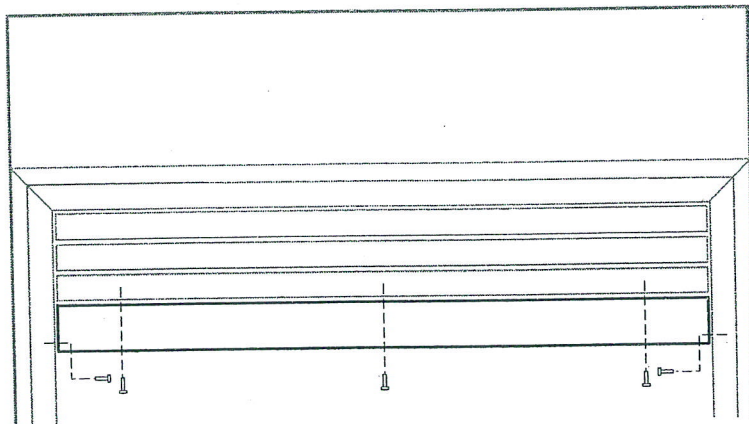

Figure 4. Canopy Installation
2. Align the black canopy with the holes in the top frame assembly. *Refer to Figure 4*
3. Install the three (3) screws which attach the canopy to the top frame assembly. Install the two (2) screws which attach to the side frame. *Refer to Figure 4*